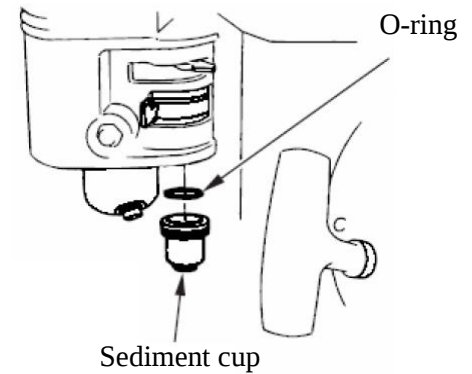

Fig. 13
- Remove the sediment cup and o-ring by unscrewing the bolt underneath the cup with a suitable wrench. See Fig. 13.